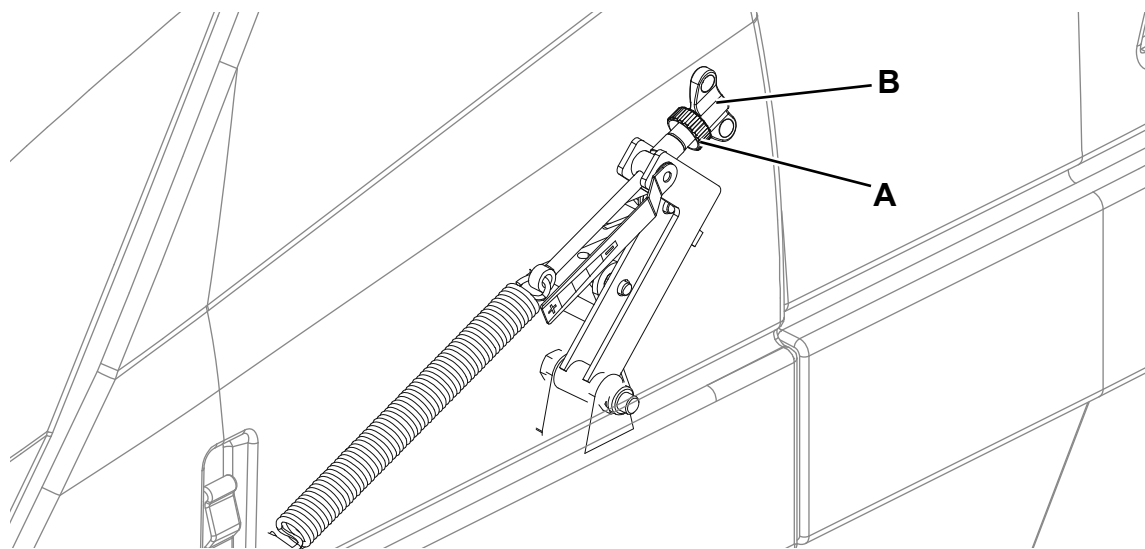

Figure 3
3. Turn the ignition key (64) and start the machine.
4. Lower the main broom with the lever (53) and let it run for 1 minute.
7. To adjust, open the engine compartment hood (1) by using the unlocking push-button (25), loosen the knob (A, Fig. 3) and operate on the main broom adjuster (B) by considering the following:
- When turning counter-clockwise, the main broom pressure and polish strip is increased.After adjusting, lock the adjuster with the knob (A).